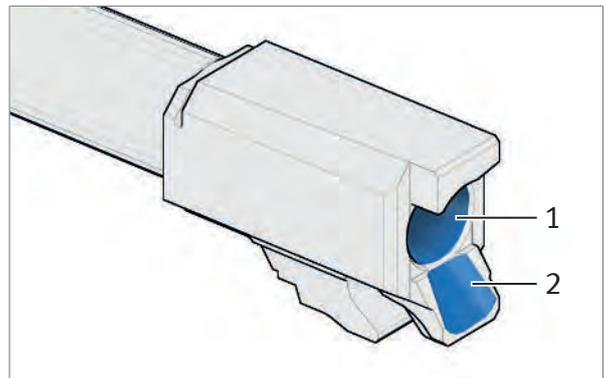

Fig. 49: Clean and oil barrel, chamber and cartridge guide
4. Pull clean cleaning pull-throughs through the barrel several times until the barrel, chamber and cartridge guide are free of oil and foreign bodies (*Fig. 49*).